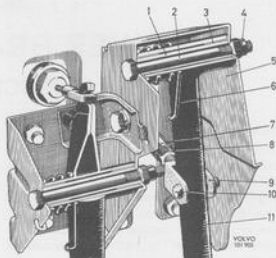

Fig. 5-65. Pedal suspension components
The position of the pedal is adjusted by loosening the locknut (8, Fig. 5-65) and removing the split pin bolt (10) and then turning the fork (9). Do not forget after adjusting to tighten the locknut and fit the split pin.
1. Remove the split pin bolt (10, Fig. 5-65). Lever off the return spring (6). Unscrew the nut (4) and pull out the screw (2). Lift the pedal (11) forwards.
2. Press out the bearing sleeve (1) and the bushes (3).
4. Press the new bushes (3) in position in the pedal and lubricate them with a thin layer of ball bearing grease. Fit the bearing sleeve (1) and the return spring (6).
5. Place the pedal in position and fit the screw (2) and the nut (4). Fit on the return spring. Fit the split pin bolt (10) and the split pin.